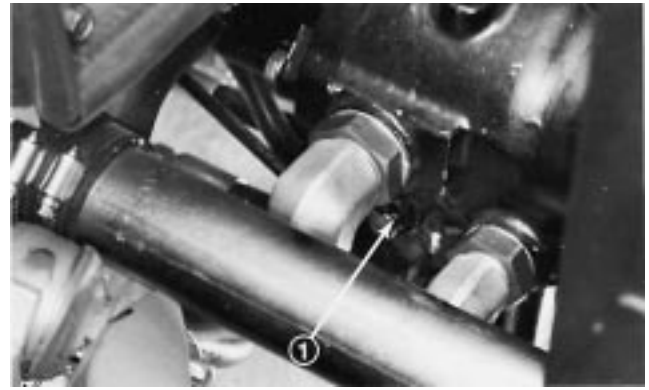

Figure 29
1. By—pass valve is located in left side of variable displacement pump (Fig. 29). Rotate the valve 1/2 to 1 turn counter—clockwise to open and allow oil to by—pass internally. Because fluid is by—passed, the machine can be moved — slowly — without damaging the transmission.